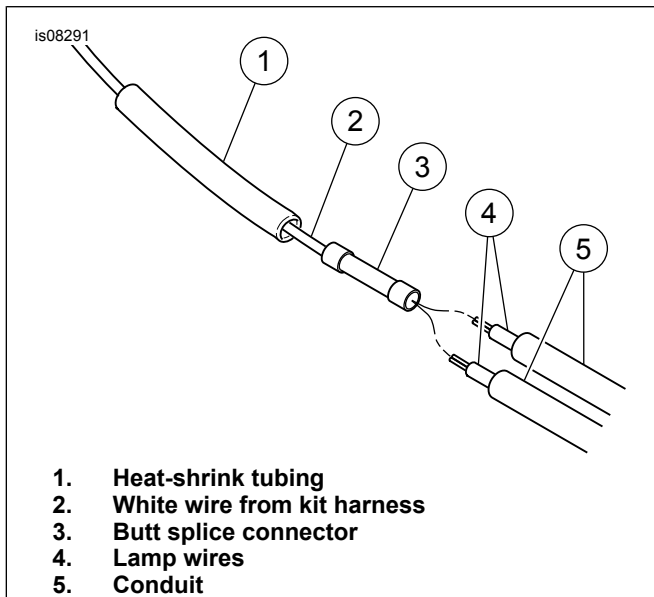

Figure 9. Connect the Lamp Wires to the Kit Harness
20. See Figure 9 and Service Manual. Slide the heat-shrink tubing (1) over the white wire (2) from the kit harness, and crimp the electrical connector (3) to the wire with a Crimp Tool (H-D 38125-8).
21. Bring both lamp wires (4) to the connector. Trim the wires, allowing approximately 1 inch (25 mm) of the wire to extend past the butt splice connector. Trim the conduit (5) approximately 1-1/2 in. (38 mm) back from the end of the wire.
23. Insert the ends of both lamp wires (4) into the electrical connector (3) and crimp the wires to the connector with the crimp tool.